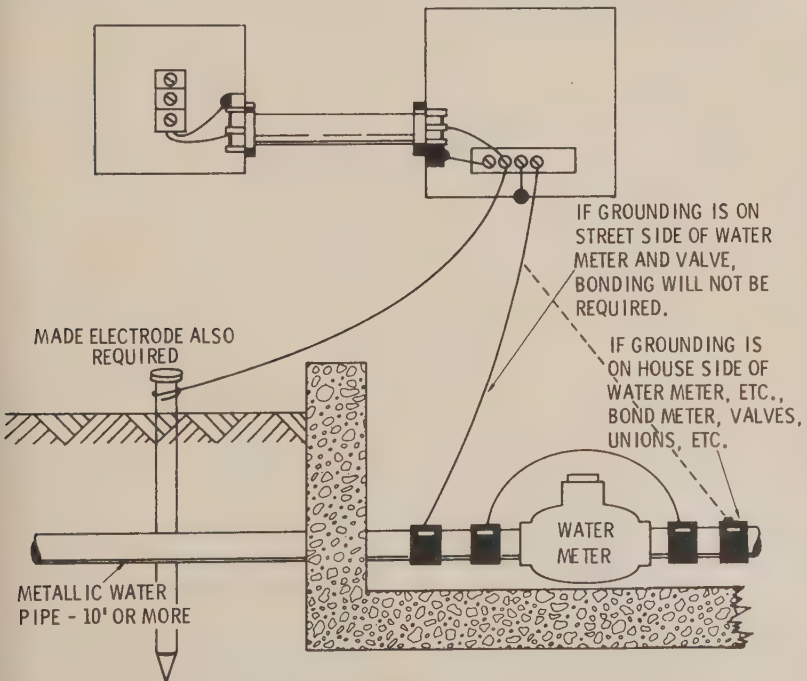

Fig. 32. Proper bonding of a water meter.
doubt be interpreted to mean valves, unions, etc. See Fig. 32.
- (1) On the street side of the water meter.
- (2) To a cold water pipe of adequate current-carrying capacity.
- (3) As near as possible to the entrance of the water supply into the building.
- (4) If not on the street side of the water meter, the meter shall be adequately bonded and the bonding jumper shall be long enough so that the water meter can be removed without disturbing the jumper. See Fig. 32.
- (5) Care must be taken to place grounding conductors on the street or supply side of insulated couplings, unions, valves, etc.